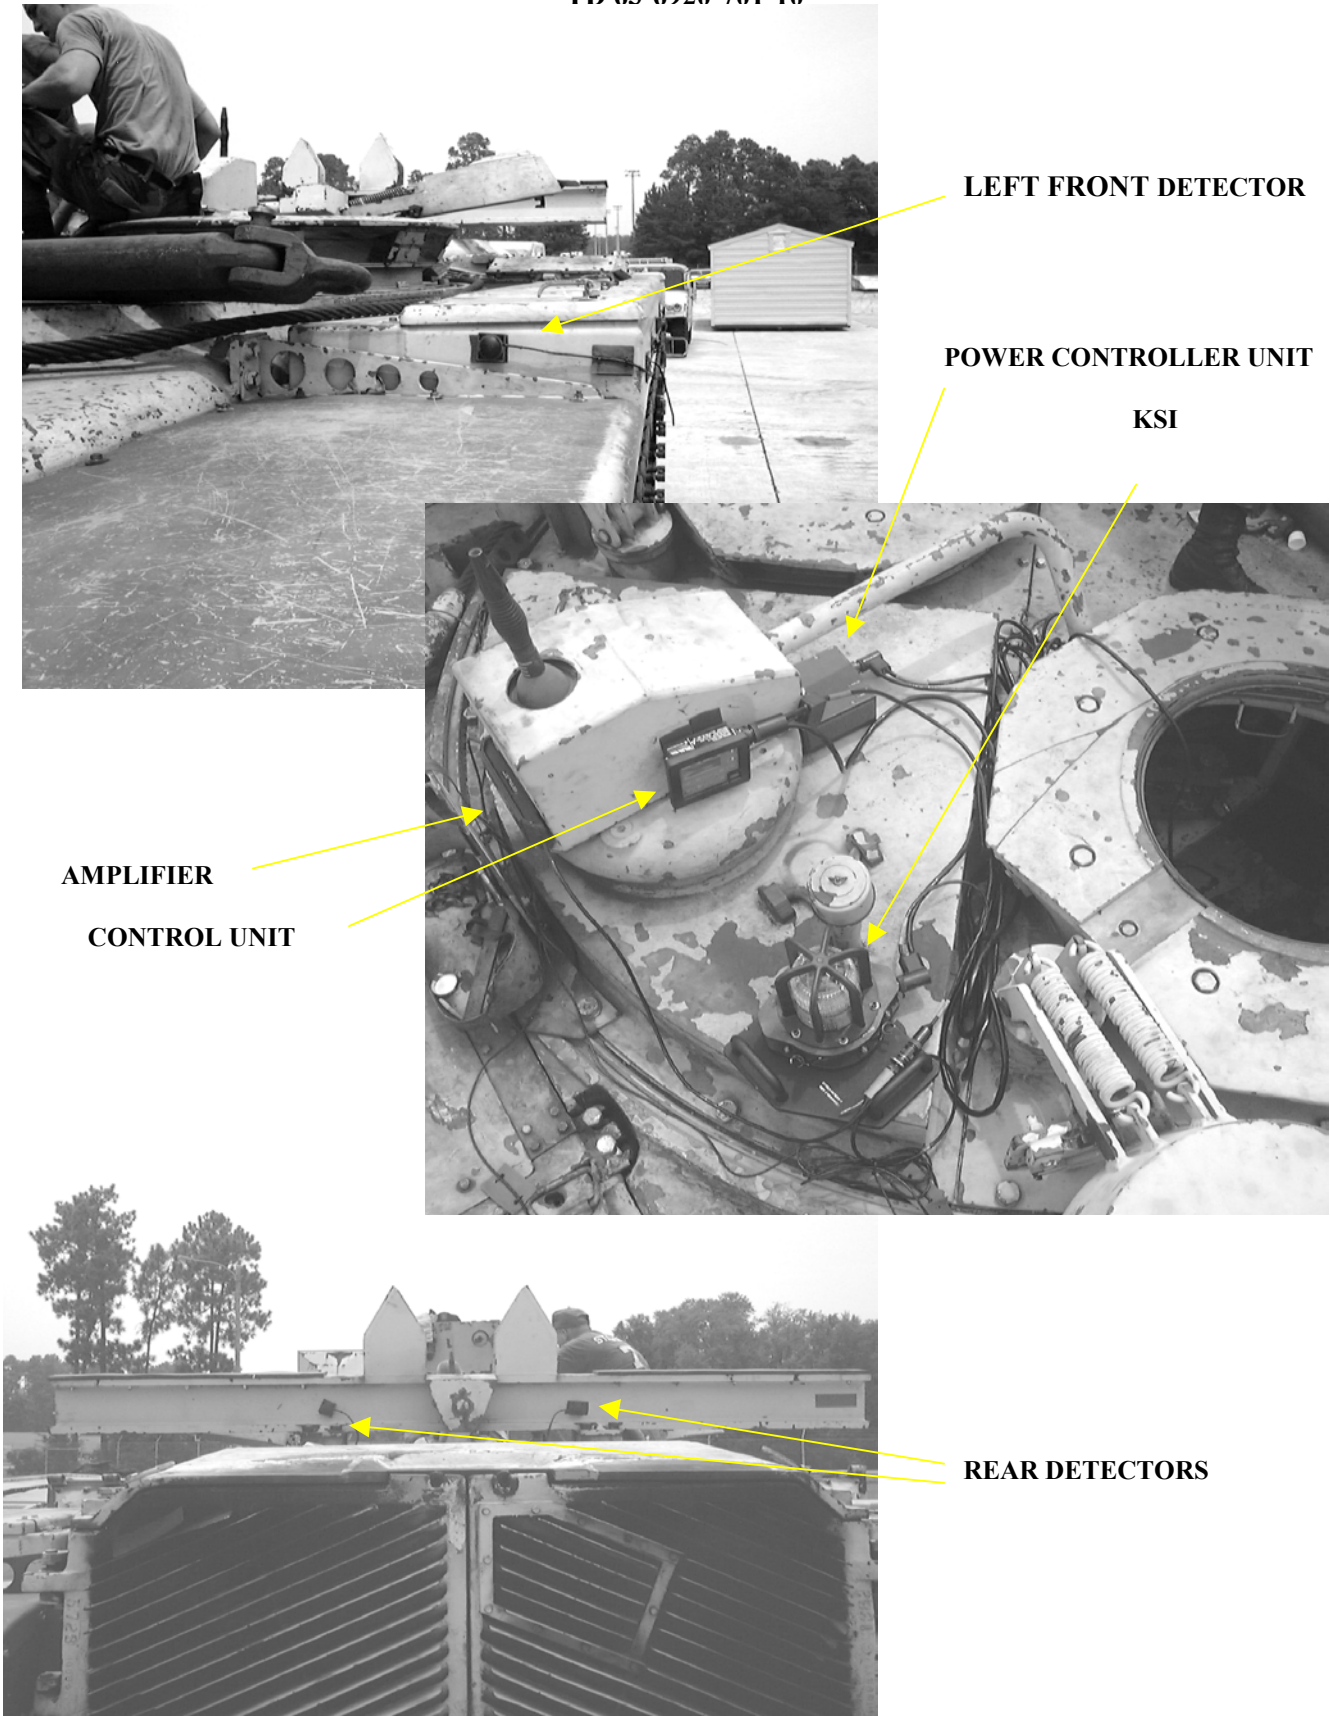

Figure 2-9. M60A1 AVLB MILES Installation (Sheet 2 of 2)
- e. Apply primer and fastener tape to the vehicle as shown in Figure 2-9 (Sheet 2 of 2).